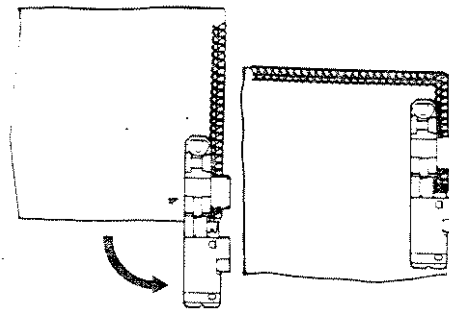

Fig. 1
3. Turn the fabric, lower the presser foot, and commence stitching in the new direction. Fig. 1.